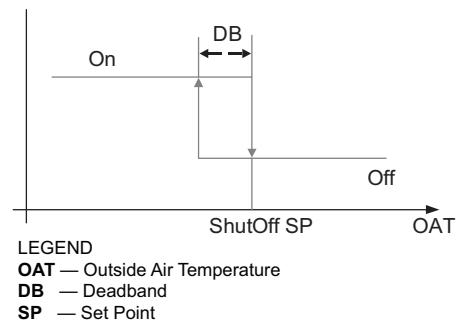

Fig. 58 — Hysteresis Settings
Hysteresis setting (DB) defaults to 2°F (-16.6°C). See Fig. 58.